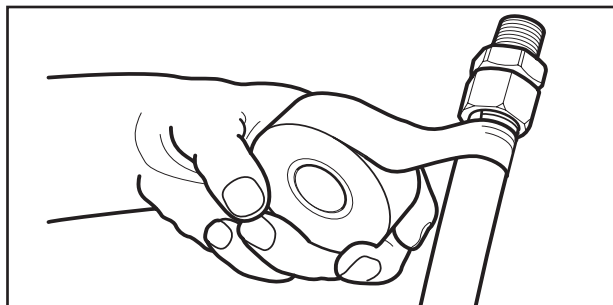

Figure 4-3A Wrapping with self bonding silicone tape - begin on jacket.
- When installed outdoors, the plastic jacketing shall remain intact as much as practical for the given installation. Any portions of exposed stainless steel shall be wrapped with self bonding silicone tape sealing the fitting connection to prevent later corrosive attack by acid wash or chloride based compounds. (See Figures 4-3A & 4-3B)
- When *TracPipe* is installed in a swimming pool mechanical room or exposed to a corrosive environment which may be harmful to the tubing, all exposed portions of the stainless steel tubing shall be wrapped with self-bonding tape. (See Figures 4-3A & 4-3B)